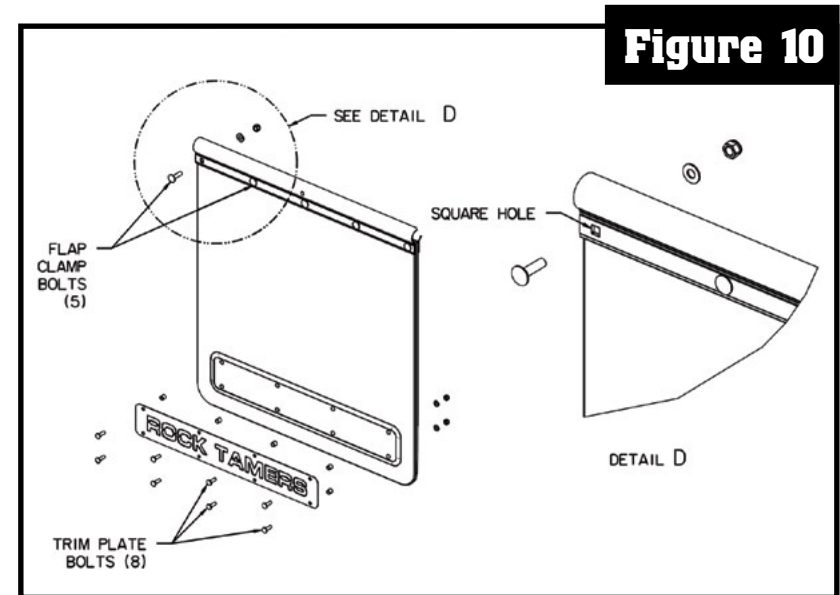

Figure 10
Insert the five M8 FLAP CLAMP BOLTS through the square holes. Loosely attach the M8 FLAT WASHER and M8 NYLON INSERT HEX NUT to the back as shown. (Do not tighten yet.) **Figure 10.**
- Assemble TRIM PLATES. Insert M6 TRIM PLATE SPACERS into holes in raised bottom portion of MUDFLAP. Attach the ROCK TAMERS TRIM PLATE with the eight M6 TRIM PLATE BOLTS (Locking STAR PIN™ [STAR PIN™ wrench included]), M6 FLAT WASHERS, and M6 NYLON INSERT HEX NUTS as shown in **Figure 10.** (20 in-lbs torque [10 mm socket or wrench]).
20. Tighten the five M8 FLAP CLAMP BOLTS on each of the FLAP CLAMPS. **Figure 10.** (30 in-lbs torque [13mm socket or wrench])